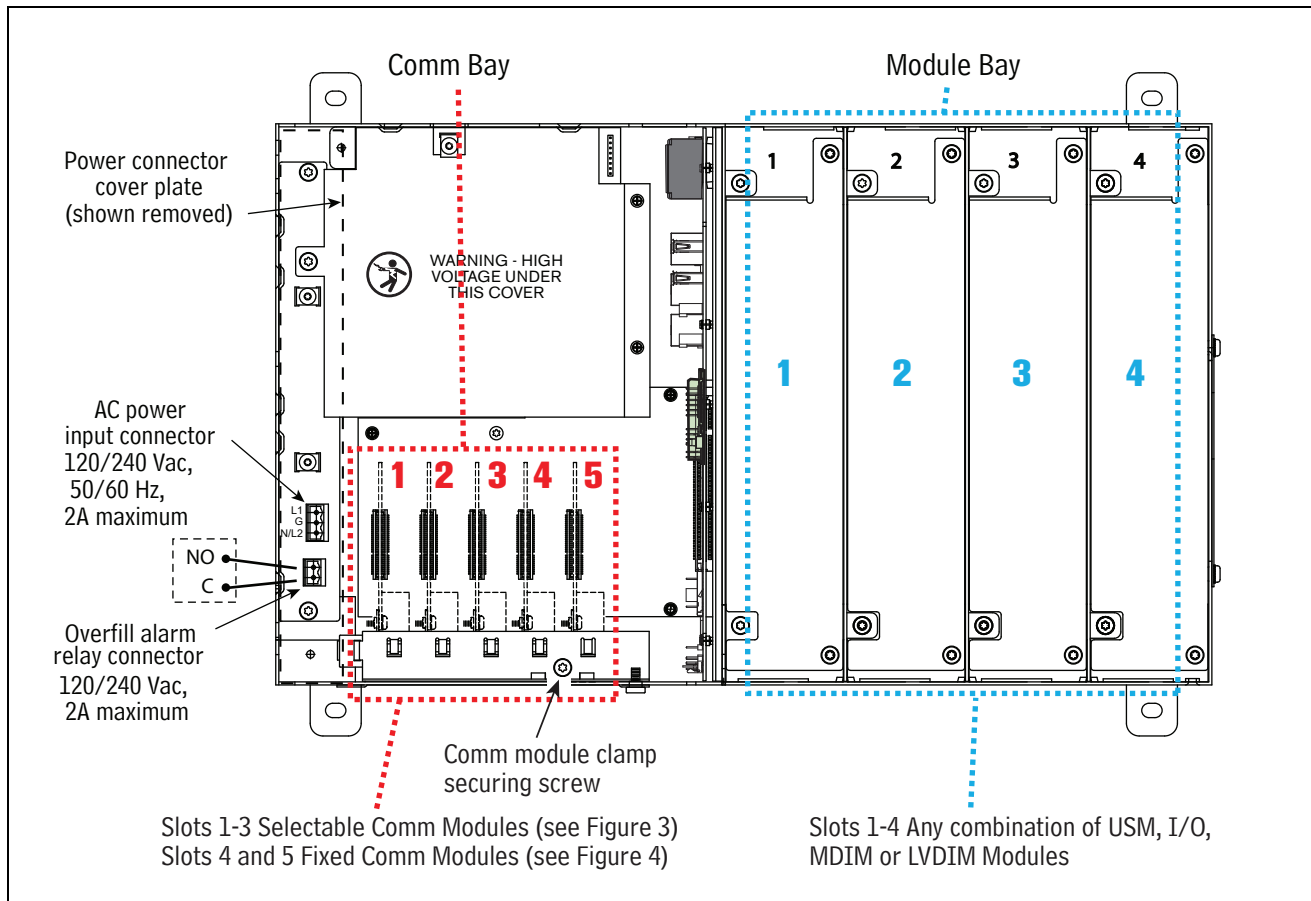

Figure 3. TLS-450PLUS Console - Plug-In Module Bays
1. Figure 3 illustrates acceptable intrinsically-safe USM module positions in the Module Bay of the console. After installing the USM module in the console, loosen the connector input screws, insert the wires and tighten well.
1. Figure 3 illustrates acceptable non-intrinsically safe module positions in the Module Bay of the console. After installing the I/O, MDIM or LVDIM module, loosen the connector input screws, insert the wires and tighten well.
- Using a T-15 Torx driver, loosen the screw securing the Comm Module clamp until you can remove the clamp (see Figure 3).
1. With the left of the console open, remove the two screws that attach the power connector cover plate (see Figure 3).